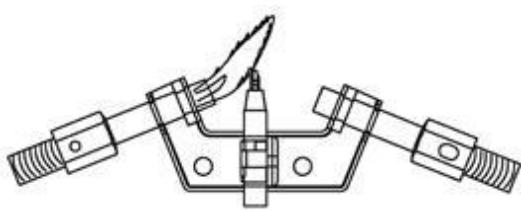

Figure 25 - Correct Pilot Flame Pattern
2. Inspect pilot flame and refer to Figure 25 and 26.
- Figure 25 shows a correct pilot flame pattern.